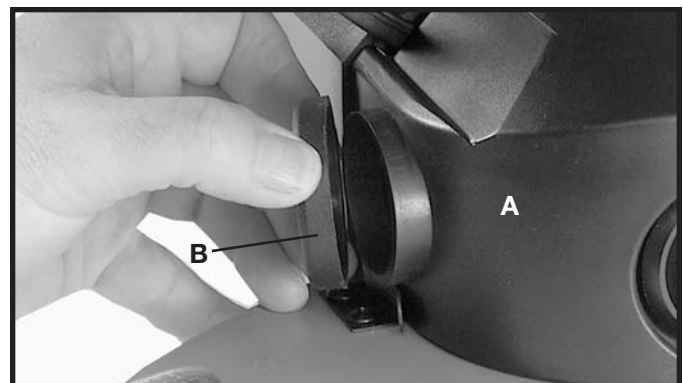

Fig. 17
A dust collection cup (A) Fig. 17 is provided and can be attached to a vacuum system by utilizing the port covered by cap (B).